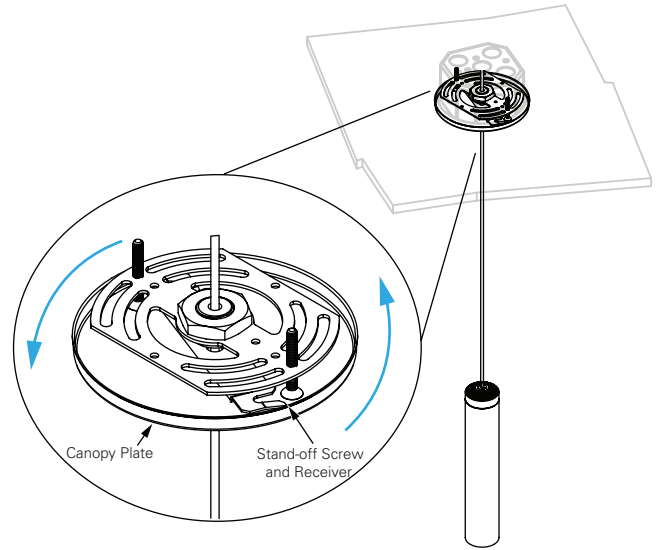

Figure 8.
2. Install the canopy plate on the stand-off screws, turning the plate as shown (See Figure 8).